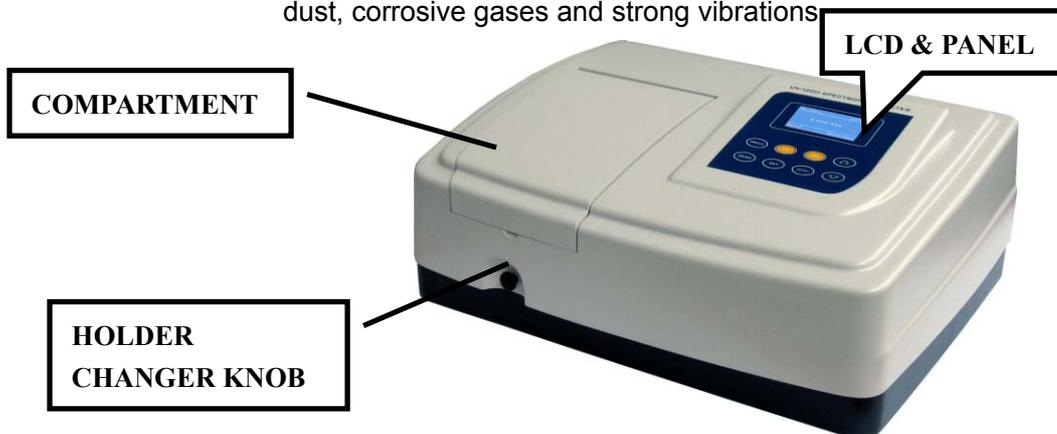

Fig.1-3
- Place the instrument (Fig.1-3) in a suitable location away from direct sunlight. In order to have the best performance from your instrument, keep it as far as possible from any strong magnetic or electrical fields or any electrical device that may generate high-frequency fields. Set the unit up in an area that is free of dust, corrosive gases and strong vibrations